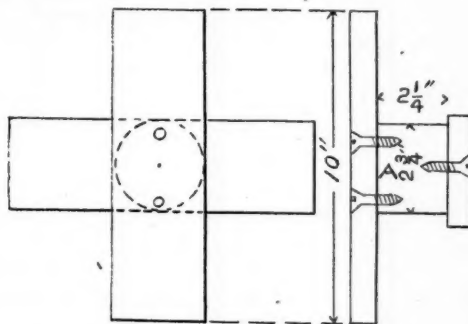

FIG. 1.
- A form constructed of pine according to Fig 1.